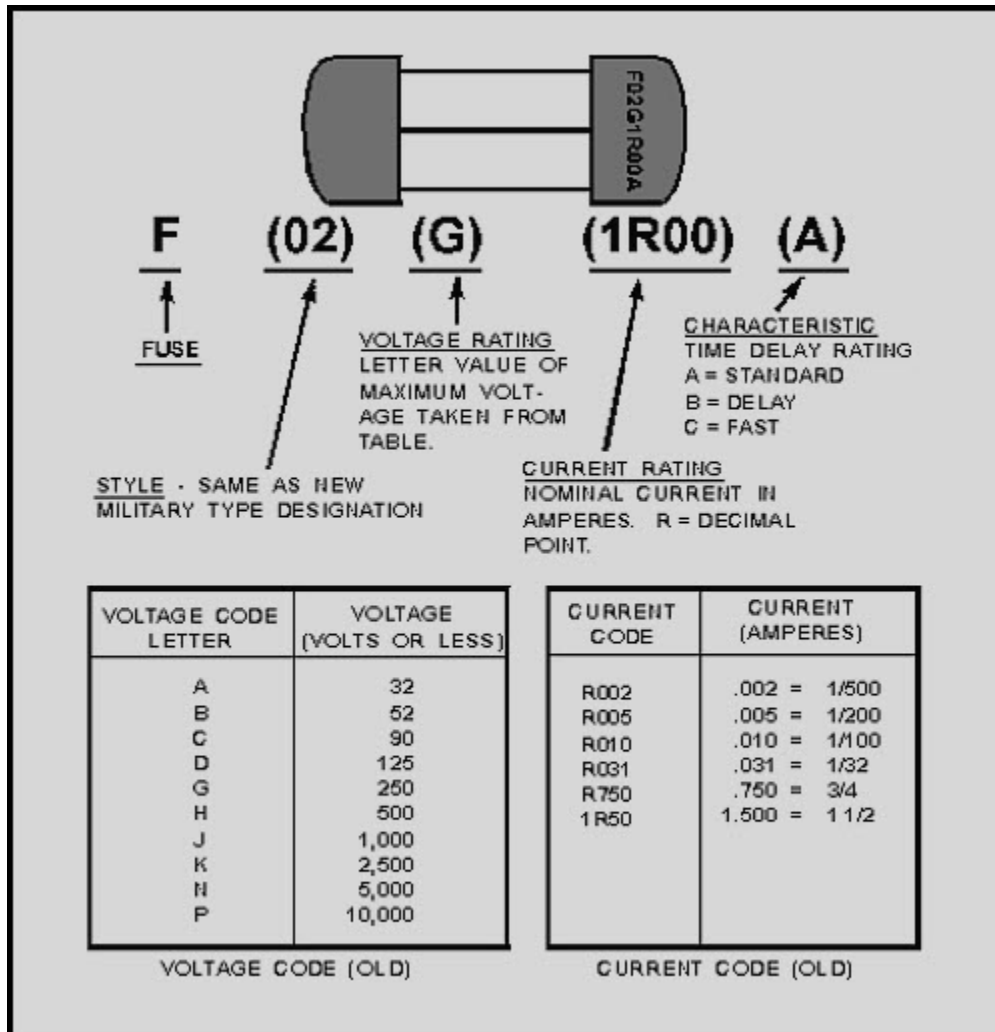
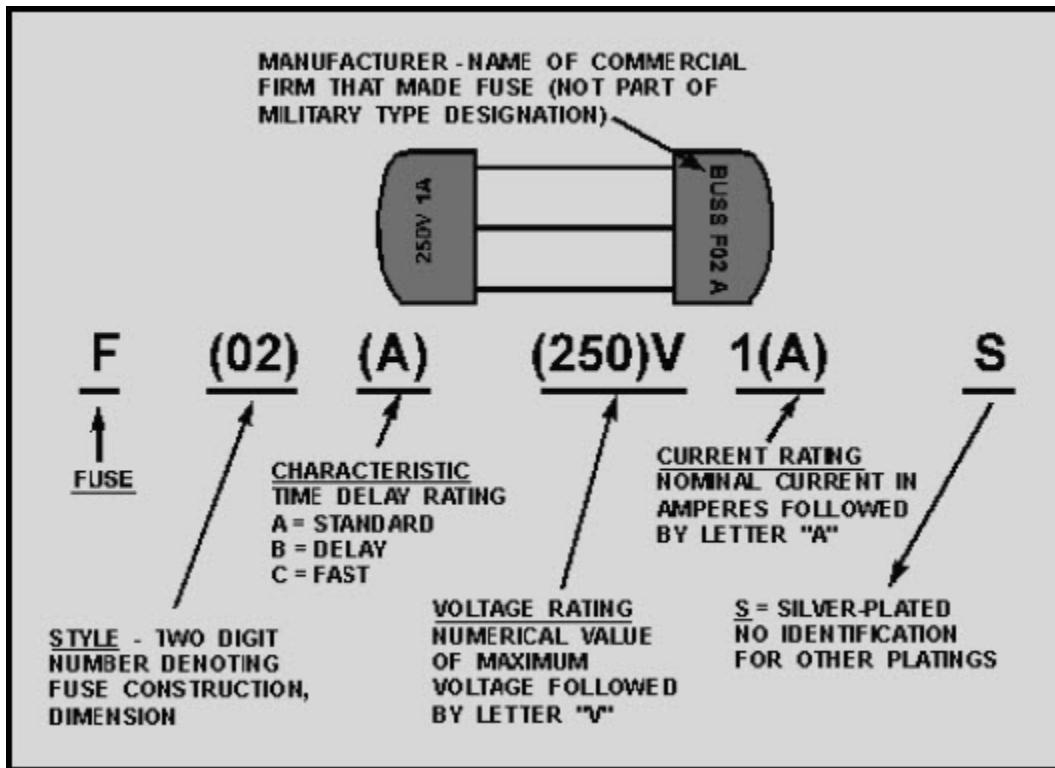
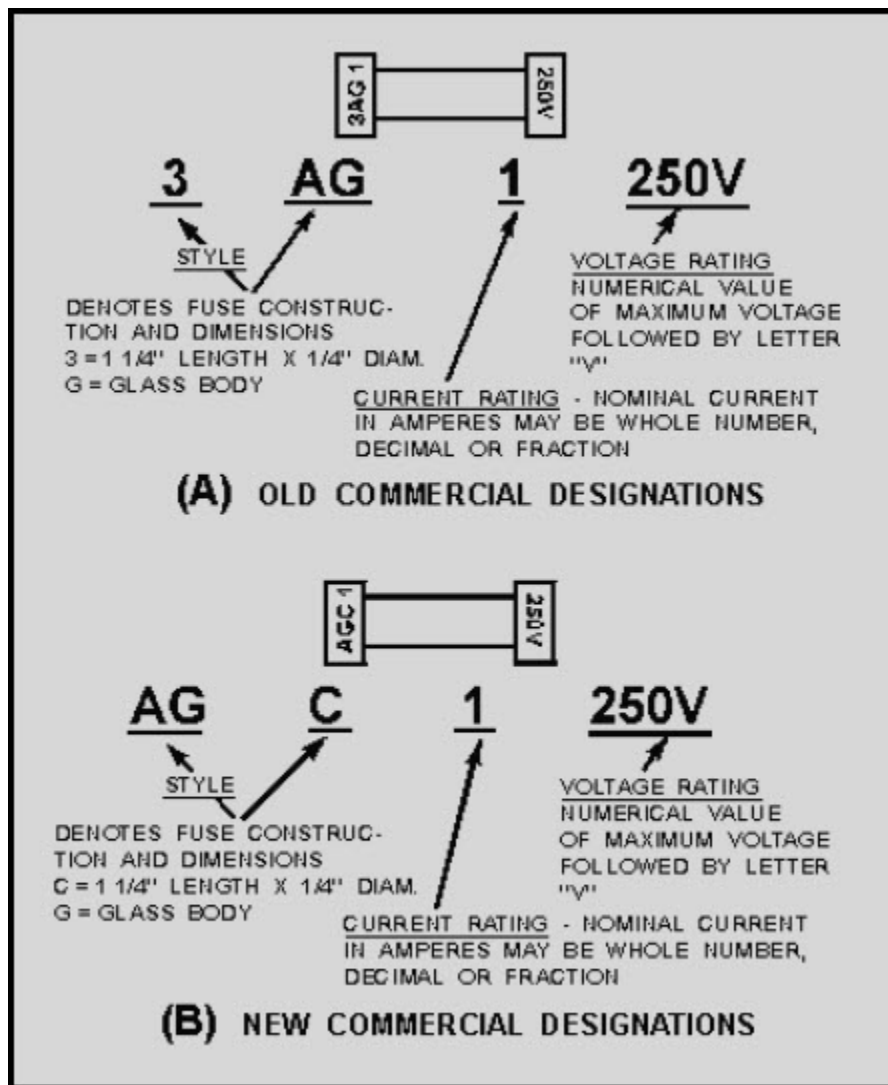

Figure 2-8 Old type military fuse designation
Figure 2-9 New type military fuse designation
Figure 2-10 Commercial designations for fuses
Figure 2-8 shows a fuse with the old military designation. The tables in the lower part of the figure show the voltage and current codes used in this system. The upper portion of the figure is the explanation of the old military designation. The numbers and letters in parentheses are the coding for the fuse shown in figure 2-8.
The old military designation always starts with "F," which stands for fuse. Next, the set of numbers (02) indicates the style. Style means the construction and dimensions (size) of the fuse. Following the style is a letter that represents the voltage rating of the fuse (G). The voltage code table in figure 2-8 shows each voltage rating letter and its meaning in volts. In the example shown, the voltage rating is G, which means the fuse should be used in a circuit where the voltage is 250 volts or less. After this is a set of three numbers and the letter "R," which represent the current rating of the fuse. The "R" indicates the decimal point. In the example shown, the current rating is 1R00 or 1.00 ampere. Some other examples of the current rating are shown in the current code table of figure 2-8. The final letter in the old military designation (A) indicates the time delay rating of the fuse.
Figure 2-9 is an example of a fuse coded in the new military designation. The fuse identified in the example in figure 2-9 is the same type as the fuse used as an example in figure 2-8.
You may find a fuse coded in one of the commercial designations. The commercial designations are fairly easy to understand and figure 2-10 shows the old and new commercial designations for the same type of fuse that was used in figures 2-8 and 2-9.
Figure 2-10, view A, shows the old commercial designation for a fuse. The first part of the designation is a combination of letters and numbers (three in all) that indicates the style and time delay characteristics. This part of the designation (3AG) is the information contained in the style and time delay rating portions of military designations.
In the example shown, the code 3AG represents the same information as the underlined portions of F02 G 1R00 A from figure 2-8 (Old Military Designation) and F02A 250VIAS from figure 2-9 (New Military Designation). The only way to know the time delay rating of this fuse is to look it up in the manufacturer's catalog or in a cross-reference listing to find the military designation. The catalog will tell you the physical size, the material from which the fuse is constructed, and the time delay rating of the fuse. A 3AG fuse is a glass-bodied fuse, 1/4 inch × 1 1/4 inches (6.35 millimeters × 31.8 millimeters) and has a standard time delay rating.
Figure 2-10, view B, shows the new commercial designation for fuses. It is the same as the old commercial designation except for the style portion of the coding. In the old commercial system, the style was a combination of letters and numbers. In the new commercial system, only letters are used. In the example shown, 3AG in the old system becomes AGC in the new system. Since "C" is the third letter of the alphabet, it is used instead of the "3" used in the old system. Once again, the only way to find out the time delay rating is to look up this coding in the manufacturer's catalog or to use a cross-reference listing. The remainder of the new commercial designation is exactly the same as the old commercial designation.